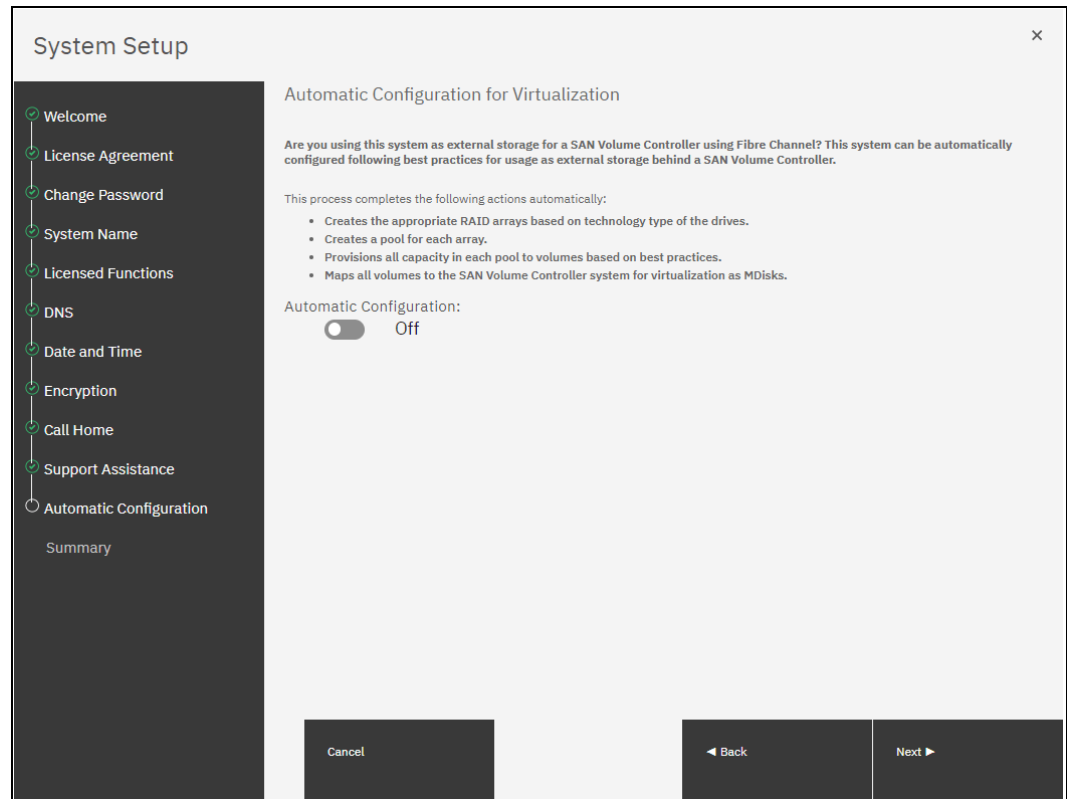

Figure 2-37 Automatic Configuration for Virtualization
25. If you install your system below an IBM San Volume Controller, you can use **Automatic Configuration for Virtualization**. System Setup offers this option (IBM FlashSystem products only) to automatically configure the system if it is used as FC-attached, back-end storage for IBM SAN Volume Controller. If you plan to use the system in stand-alone mode (that is, not behind an IBM SAN Volume Controller), leave Automatic Configuration turned off, as shown Figure 2-37 on page 48. Click **Next** to continue.